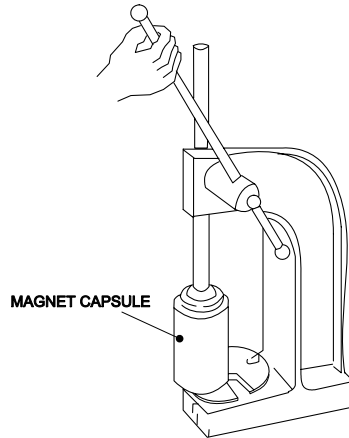

Figure 15
1. Warm the inner magnet assembly (230) in hot water at 194° F (90° C) for approximately 5 minutes. Then using a hand (arbor) press, remove the bushing (237) by pressing the replacement jig from the front end of the inner magnet assembly. [Fig. 15] (Consult Iwaki America for jig specifications).